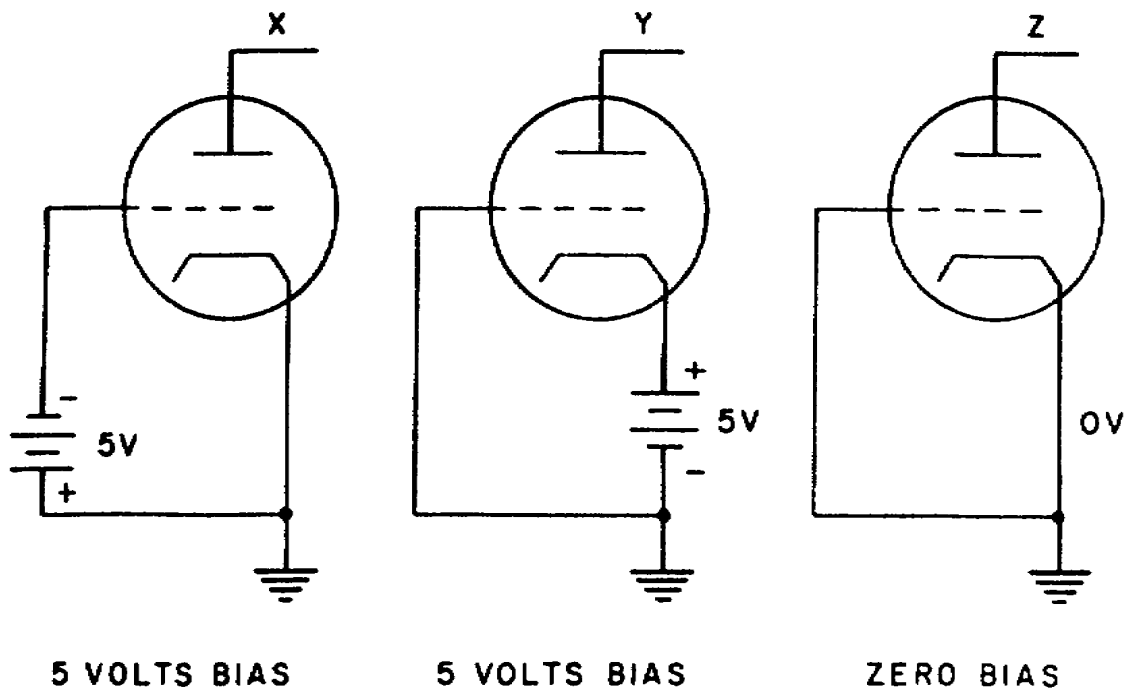

Figure 93. Using a battery to get fixed or zero bias.
8. The first is fixed bias. Figure 93 shows how the negative terminal of a battery could be connected to the control grid of a tube, and the cathode connected to ground to provide bias. If you say that the bias is 5 volts, you mean that the grid is 5 volts "negative" with respect to the cathode. Two methods of obtaining a bias of 5 volts are shown in figure 93. In diagram X the battery is connected with its negative terminal to the grid, while its positive terminal and the cathode are grounded. Diagram Y shows the positive terminal of the battery connected to the cathode, while its negative terminal and the grid are grounded. In either case, the grid is 5 volts negative with respect to the cathode. If the grid and the cathode are at the same potential, there is no difference in voltage and the tube is operating at zero bias (diagram Z).